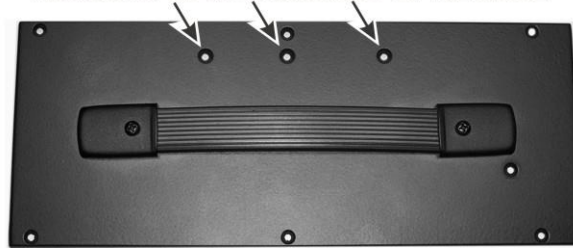
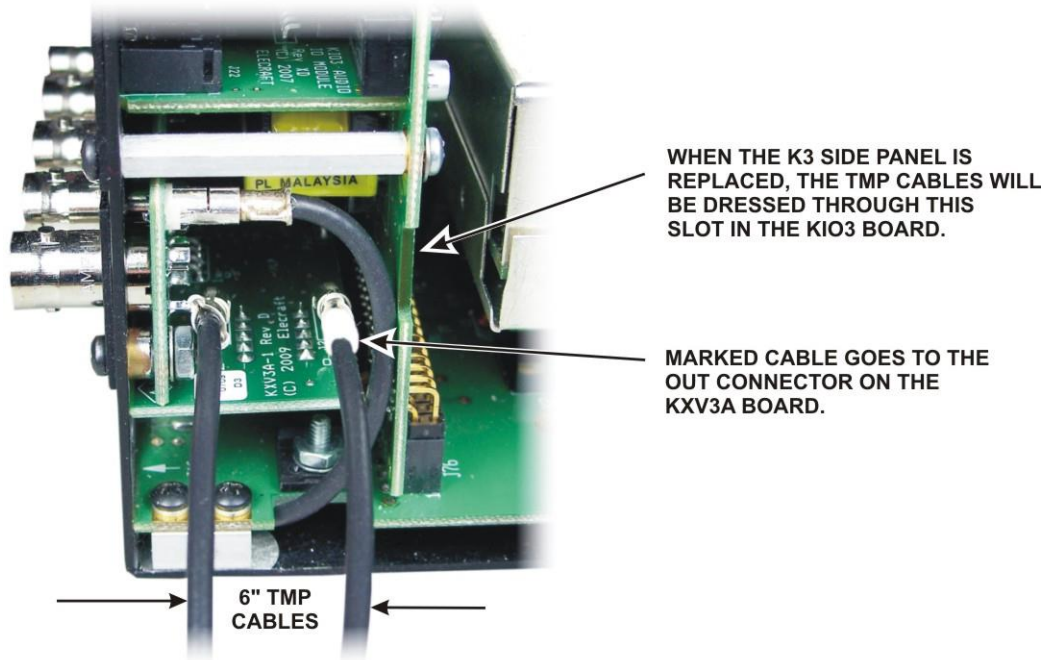

Figure 2. Left Side Panel with Holes for K144XV Module.
Figure 6. Attaching TMP cables to the KXV3A Interface Board.
Remove the K3 left side panel (the side with the handle). Check the panel to determine whether it has the three mounting holes for the K144XV module shown in Figure 2. The three mounting holes may have screws in them:
Locate the KXV3A board visible in the lower left corner of the K3 looking in from the open side (see Figure 6 on page 13) and verify the two coaxial TMP connectors are present. If not, your K3 has an older KXV3 board that must be replaced. (All K3S transceivers are equipped with the newer KXV3A board with the required connectors.) Turn to your KXV3A manual and install the new board now. If your K3 is equipped with the KRX3 sub receiver the KXV3A manual will instruct you to remove it. If so, do not replace the KRX3 sub receiver module until instructed to do so later.
- Plug the cables into the two TMP connectors on the KXV3A board (see Figure 6). Note the connectors on the KXV3A are marked IN and OUT. Be sure the marked TMP cable is in the OUT connector on the KXV3A. The purpose of the marked cable is to positively identify the cable after the K3 side is replaced and you can no longer see the KXV3A board. Be sure the connectors are fully seated.
- Mount the left side panel on the K3. Be sure you use the side panel equipped with the holes for mounting the K144XV module (see Figure 2). Route the two TMP cables from the KXV3 through the slot in the KIO3 board (see Figure 6) so they are not pinched between the side panel and the KIO3 circuit board.